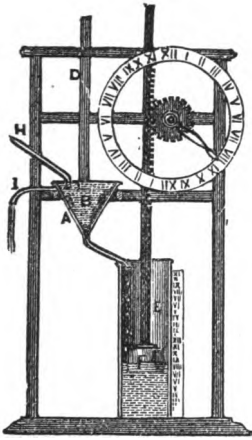

Fig. 1.
**Clepsydra.**—[*Clepsydre.*—*Die Wasseruhr.*]—A machine for indicating time by the passage of water. One of the earliest forms of the Clepsydra, which was in use in Egypt about 200 B.C., is shown in Fig. 1. A supply of water ran through the pipe H into the cone A, and from there dropped into the cylinder E. A conical stopper B regulated the flow, and the superfluous water escaped by the waste pipe I. The Egyptians divided the period between sunrise and sunset into twelve equal hours, so that the conical stopper had to be adjusted each day, and marks for every day in the year and for the particular latitude of the place were